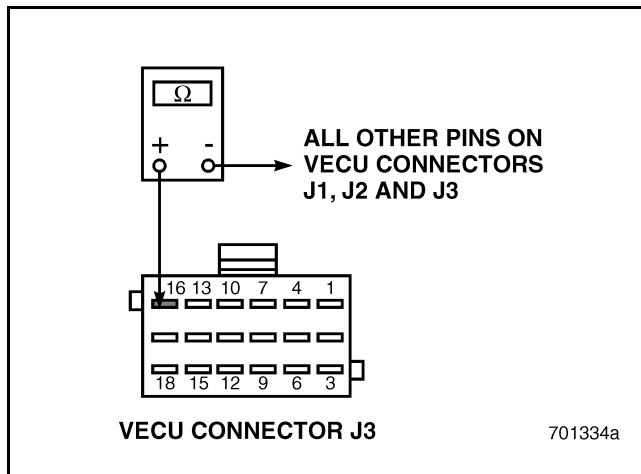

Figure 715
3. Check for continuity between VECU connector J3 pin 16 and all other pins on VECU connectors J1, J2 and J3 (see Figure 715).